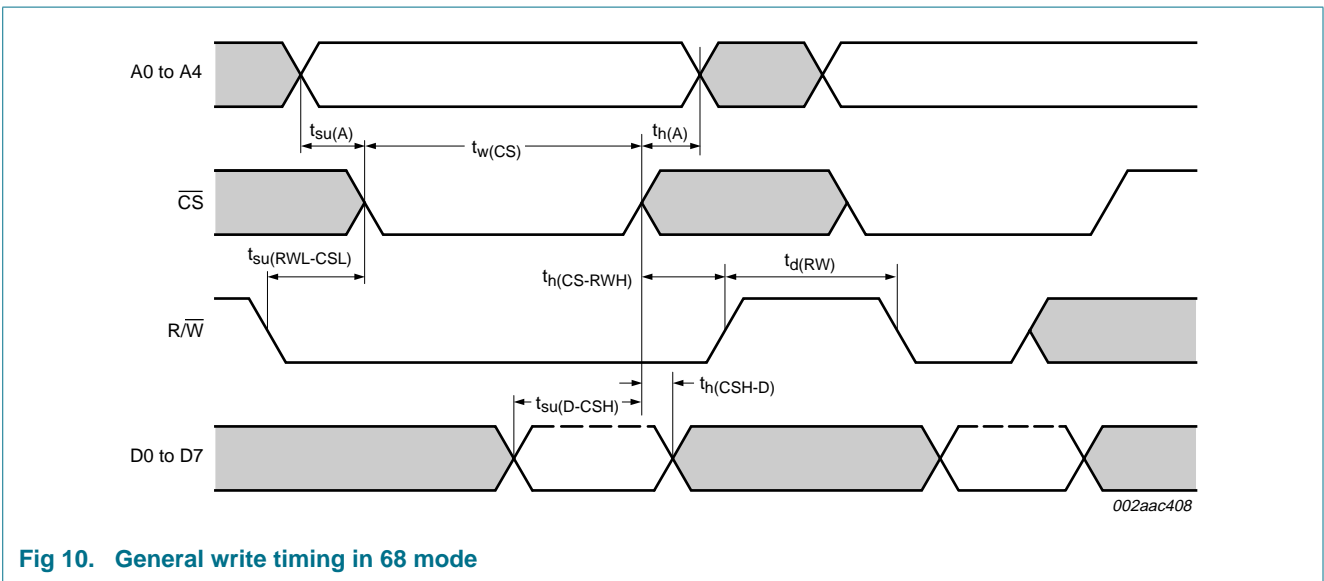

Fig 10. General write timing in 68 mode
- (1) \overline{CS} timing during a write cycle. See Figure 10.